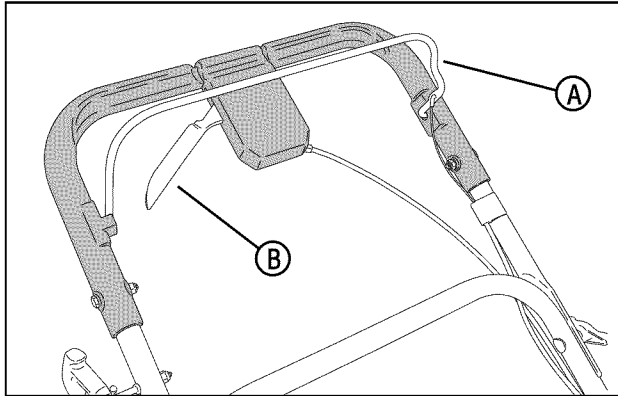

Figure 1: Mower controls
2. Check the blade control (A, Figure 1) and wheel drive control (B) to insure they work freely.